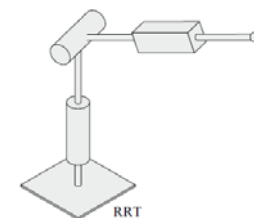

Figure 8.4 Spherical robot arm
- The spherical robot arm (Figure 8.4) has **two rotational and one translational degree of freedom (RRT)**.